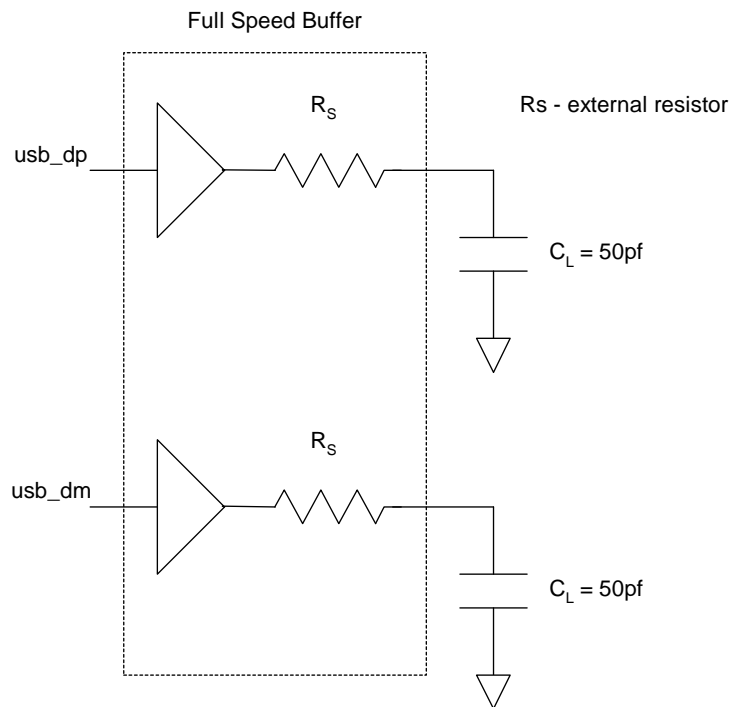

Figure 141: USB internal PHY full speed load
- 1 Load shown in Figure 141, "USB internal PHY full speed load," on page 795.